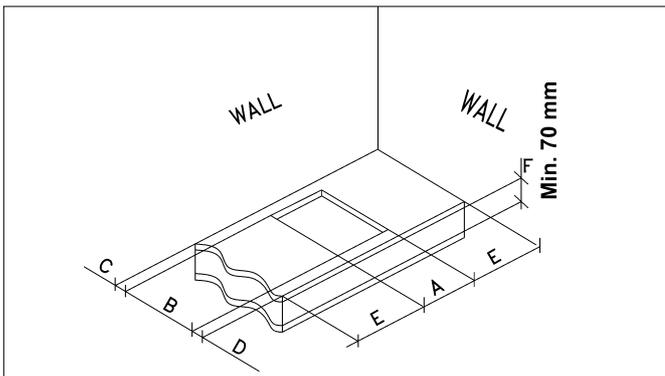

FIG. 9
The measurements of the opening made in the top of the modular cabinet and into which the hot plate will be installed are indicated in either fig. 9.
Always comply with the measurements given for the hole into which the appliance will be recessed (see fig. 9 and 10).
- In order to avoid accidental touch with the overheating bottom of the hob, during the working, is necessary to put a wooden insert, fixed by screws, at a minimum distance of 70 mm from the top (see fig. 9).